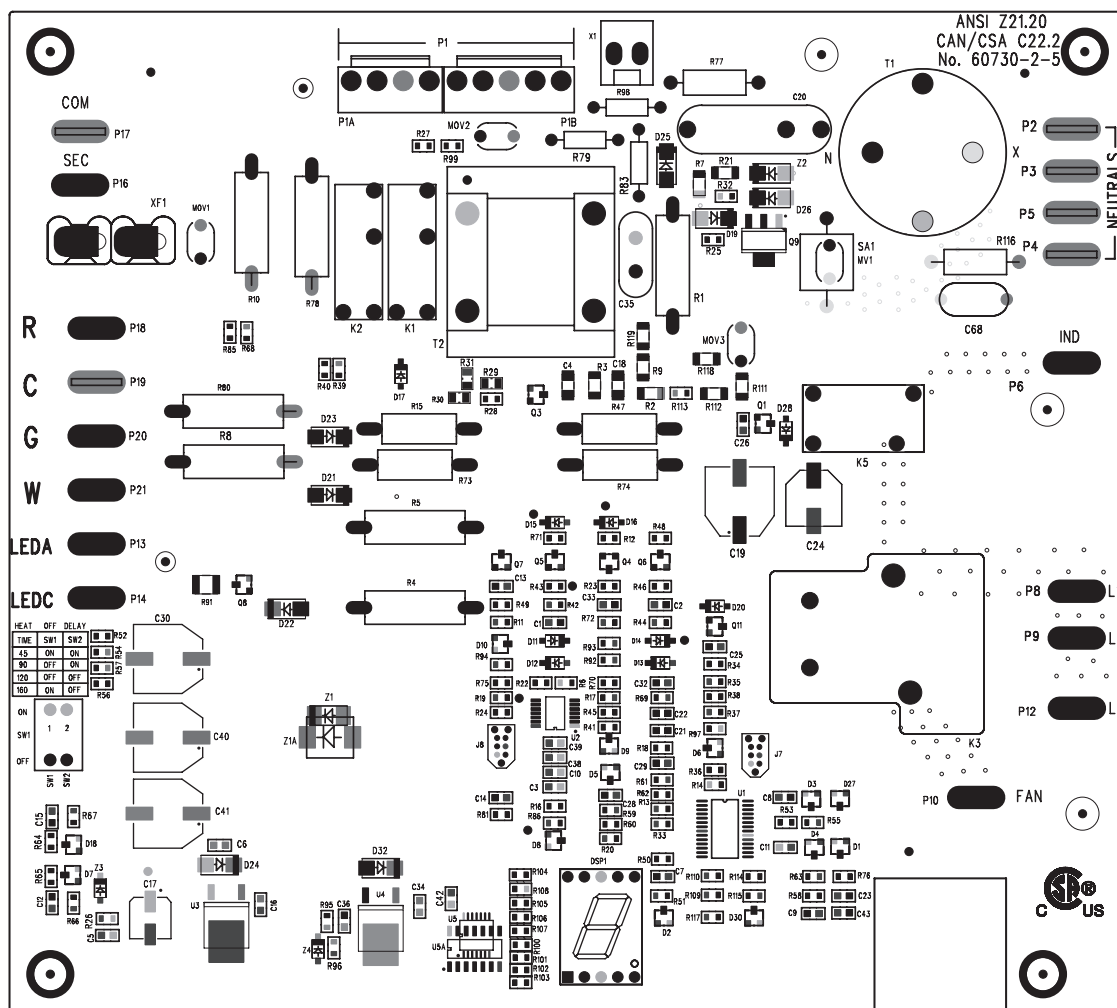

Figure 25. Circuit Board (DSI Control Module)
- The circuit board (see Figure 25) is located inside on the bottom of the control compartment. The circuit board is polarity sensitive. It is advisable to check the electrical supply to ensure that the black wire is the **hot** wire and that the white wire is the **neutral** wire. The **hot** wire must be connected to terminal L1 on the circuit board.
The heater's ignition system is controlled by a circuit board (Direct-Spark Integrated (DSI) control module, see Figure 25) that monitors the safety devices and controls the operation of the fan and venter motors and the combination gas valve between heat cycles. To view the Seven-Segment Display (SSD), the door panel requires removal. In addition, there is a status LED on the bottom of the heater. Its status indications are **off** (heater is not powered or control board fault), **steady on** (heater is on with no faults), or **flashing** (heater is on with fault(s)). Additional status indications appear on the display at the bottom of the control module (labeled as DSP1, see Figure 25). The display's codes are listed and described in the Unit Troubleshooting Using DSI Control Module section.
The venter motor (see Figure 26 for location) is assembled to the venter wheel and operates to provide combustion airflow. Operation is controlled by the circuit board (see Figure 25). Refer to the Circuit Board \(DSI Control Module\) section for details.